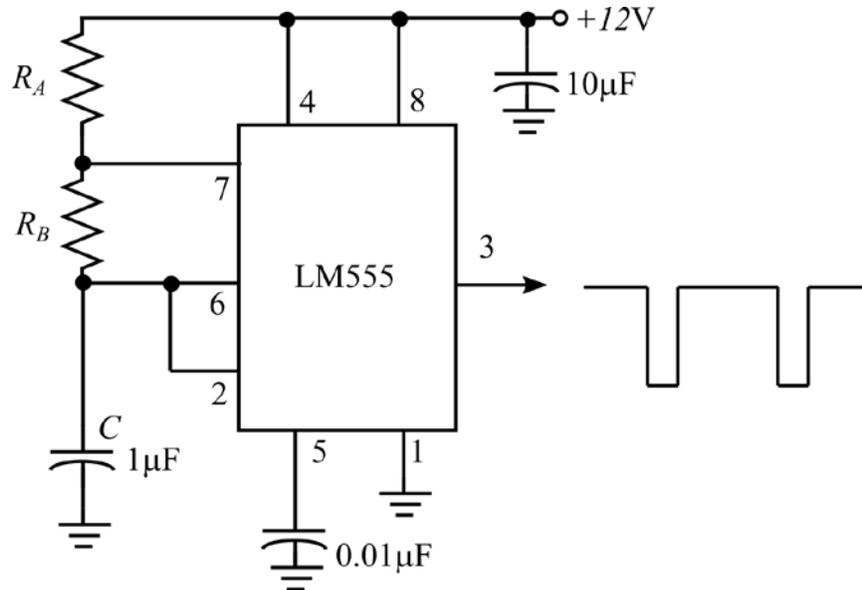

Figure 2: Astable multivibrator.
2. **Design an astable multivibrator (Figure 2) that will generate a negative-going pulse approximately 100 μs , approximately every 1 ms.** Use a 1 μF capacitor for C . Calculate the value needed for R_B and then, R_A . The circuit is shown below in Figure 2.
1. Build the astable multivibrator circuit shown in Figure 2. Apply power and observe the output (**save the shape of the resulting square wave showing on oscilloscope screen**). Show the TA the operating circuit.